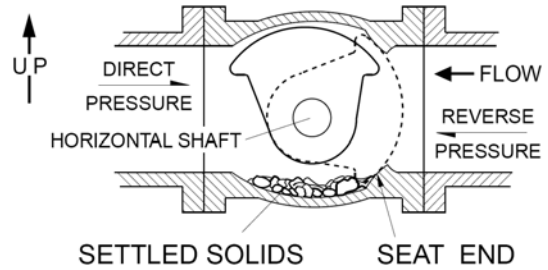
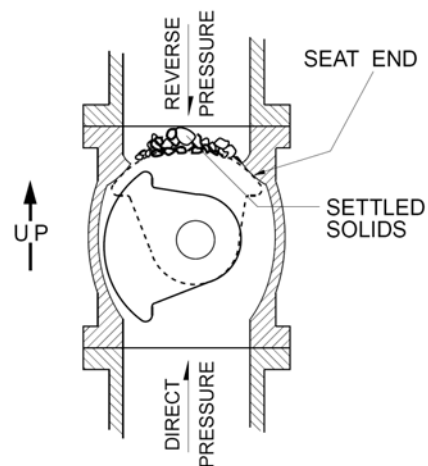

FIGURE 4. HORIZONTAL PIPE WITH SOLIDS
FIGURE 5. VERTICAL PIPE WITH SOLIDS
SUSPENDED SOLIDS SERVICE: For fluids containing suspended solids, special orientations are needed to prevent debris from collecting in the valve. For horizontal installations (Figure 4), the valve should be installed with the flow entering the seat end of the valve and the shaft in a horizontal position with the plug up when open. For vertical installations (Figure 5), the valve must be installed with the seat end up regardless of flow direction.
GEAR ACTUATOR MAINTENANCE: A typical gear actuator is shown in Figure 5 and consists of a worm (8) mounted on an input shaft (4). The worm engages a worm wheel (3). When the worm is turned, it drives the wheel through 90° of rotation. The rotation of the valve plug is displayed by the top indicator (5). The open and closed positions of the segment gear are controlled by an end position stop bolts. The stops can be adjusted by loosening the lock nut and rotating the bolts. The gears are lubricated with EP2 grease in a cast iron housing (1).